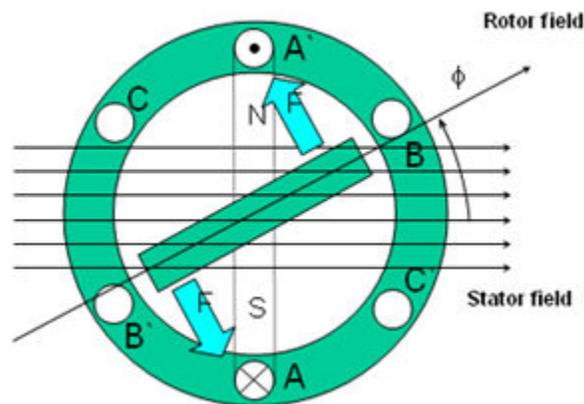

Figure 2-1. The Interaction Between the Rotating Stator Flux, and the Rotor Flux Produces a Torque
- The interaction between the stator and rotor fluxes produces a torque. Since the stator is firmly mounted to the frame, and the rotor is free to rotate, the rotor will rotate, producing a useful mechanical output as shown in Figure 2-1.